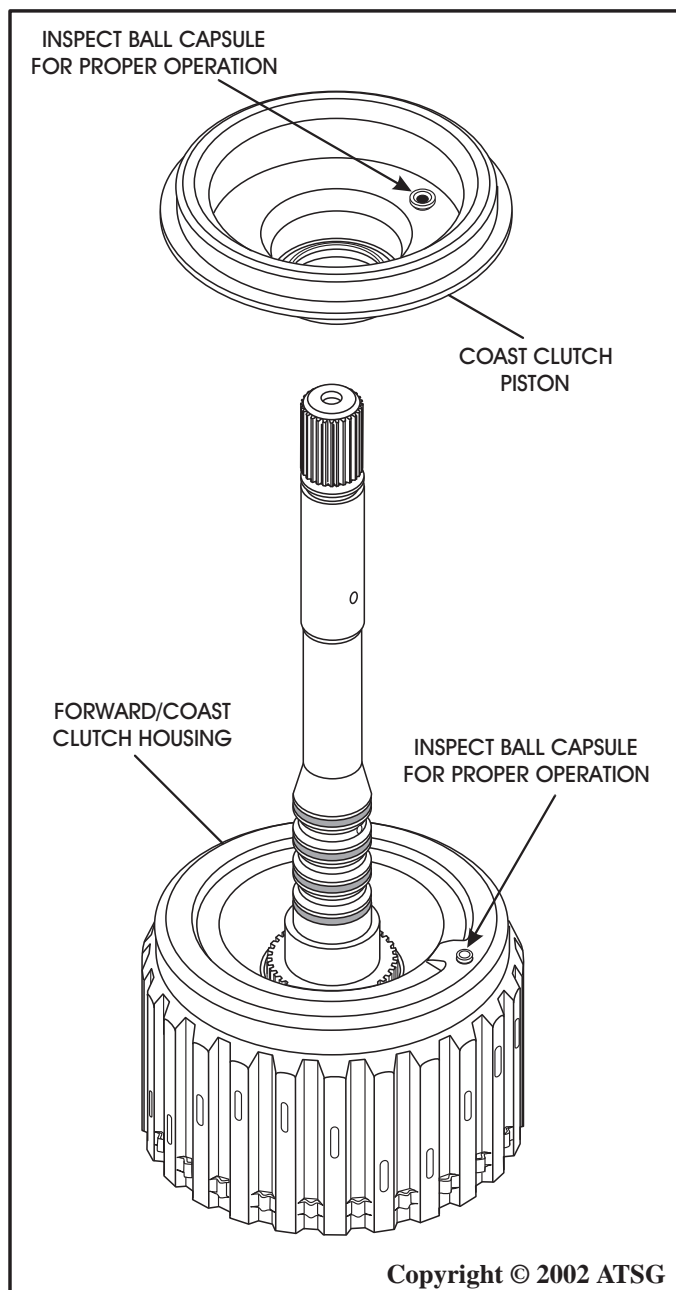

Figure 85
4. Inspect the coast clutch piston ball capsule for proper operation, as shown in Figure 85.
5. Inspect the forward/coast clutch housing ball capsule for proper operation (See Figure 85).